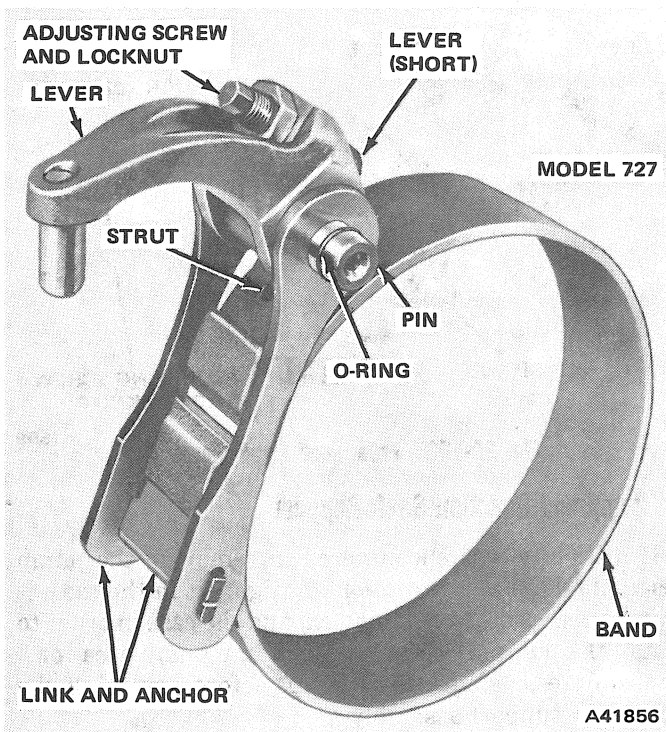

Fig. 2C-97 Rear Band—Model 727
(5) Install low-reverse drum in overrunning clutch hub and rear band.
**NOTE:** Model 904 has a single wrap band. Model 999 transmission has a double wrap band supported at two points by a reaction pin mounted in the case. It is actuated at one point by the rear servo adjusting screw (fig. 2C-98).